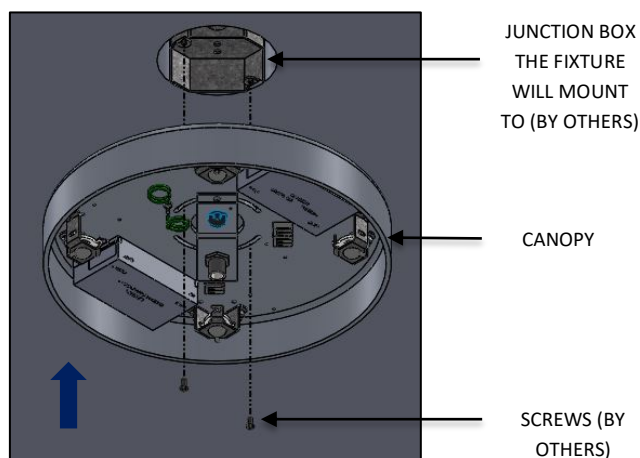

FIG. 6 - CANOPY ASSEMBLY INSTALLATION
2. Assemble the CANOPY ASSEMBLY to the JUNCTION BOX (by others) with screws (by others) at the center of the non-powered mounting points as shown in FIG. 6 below.